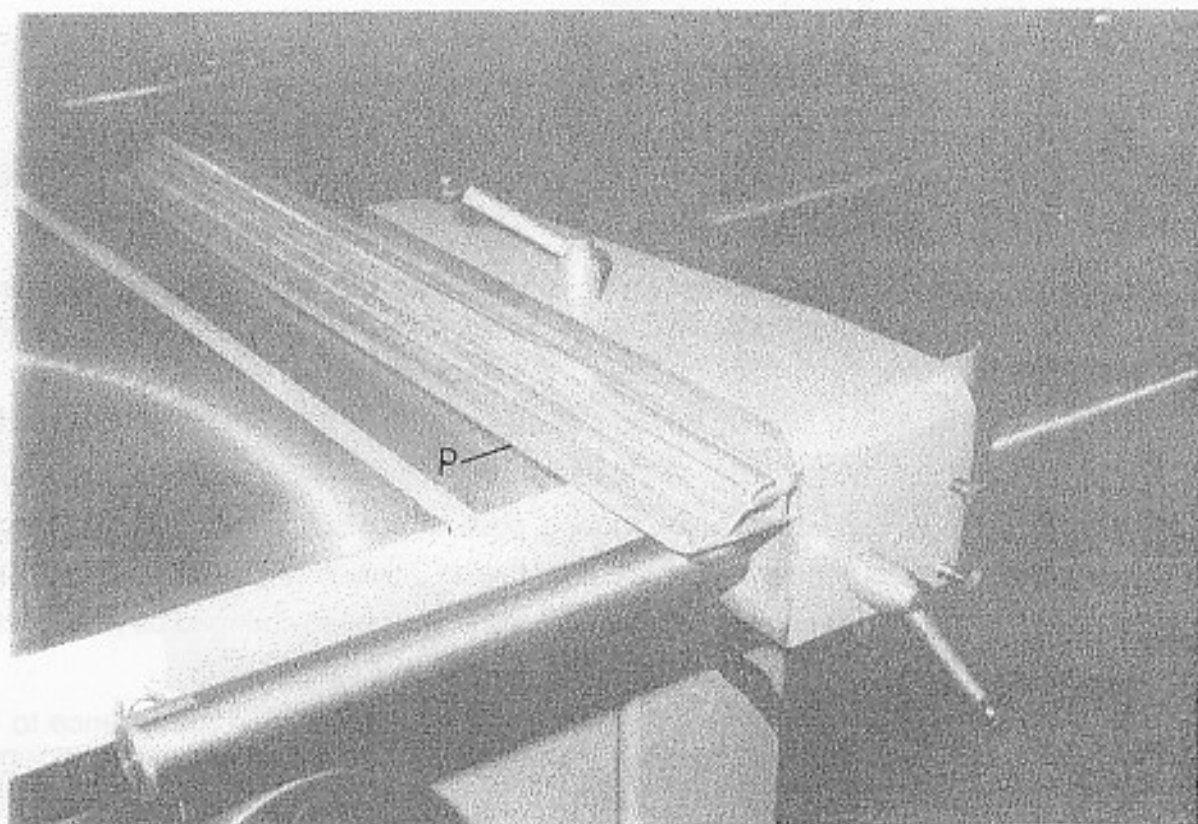

FIG. 12
The fence plate "P" FIG.10 has two positions. Position shown in FIG.10 is for use with deep stock, fence can be moved longitudinally to facilitate this. Position shown in FIG.12 is for use with faced panels, melamine, veneer, etc.
- b) Slide fence plate over the locking plate to position shown FIG.12, relock locking handle "R".